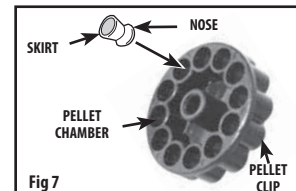

Fig 7
- Place a .177 caliber pellet; nose first, in each pellet chamber of the pellet clip (Fig. 7). To avoid jams or deforming pellets, ensure each pellet skirt is level or slightly below the rim of the pellet chamber.